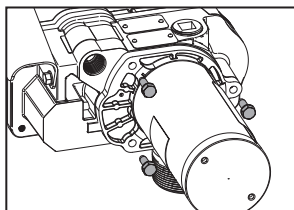

Figure 22
3. Remove the (3) 1/4-20 x 3/4 inch SEMS screws and motor from the pump housing (see Figure 22).